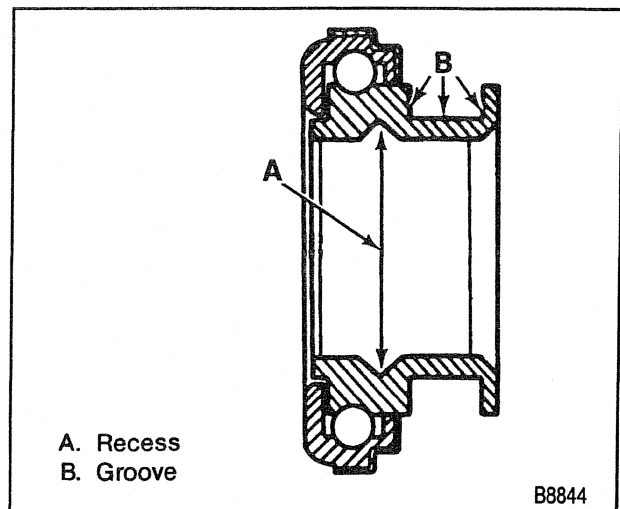

Figure 7—Release Bearing
- Pack the inside recess (A) and outside groove (B) of the release bearing with high temperature grease as shown (figure 7).
- Bearing retainer spring should be depressed and rest within groove (B) of the release bearing (figure 7).